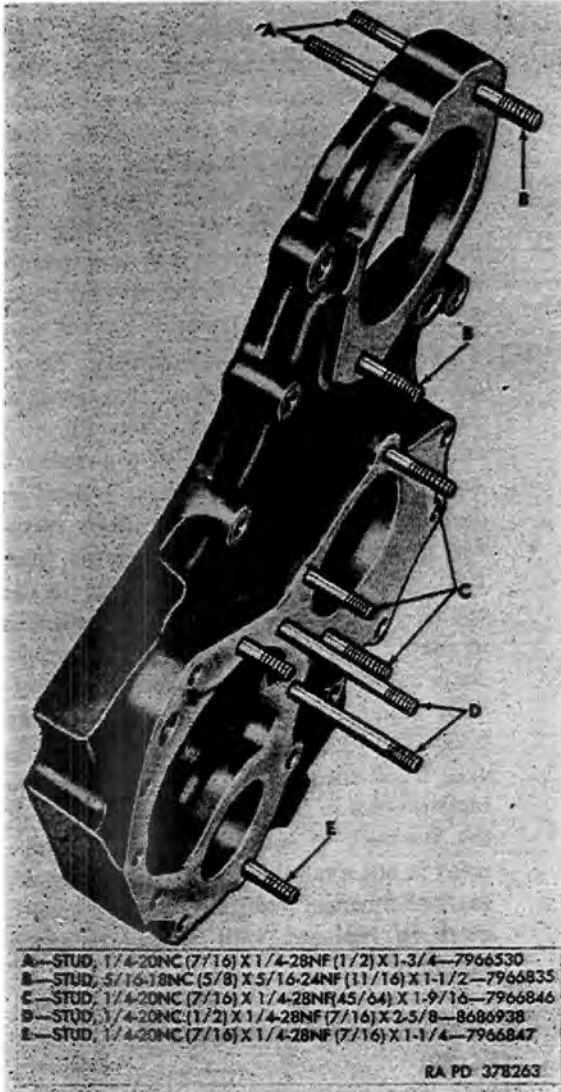

Figure 36. Stud location—Accessory drive housing, front and rear.
(3) *Studs (figs. 36 and 37).* Refer to paragraph 26d and e for inspection and repair procedures. Observe setting height as given in table III.